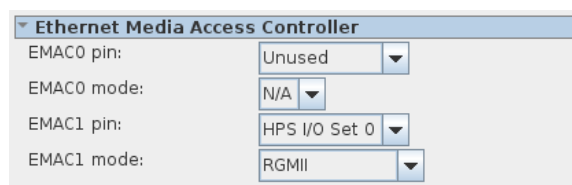

Figure 8-9. Ethernet MAC configuration 1
- Configure “EMAC1 pin” to “HPS I/O Set 0” and the “EMAC 1 mode” to “RGMII”, as shown in Figure 8-9.